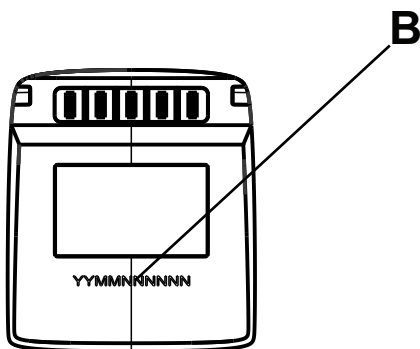
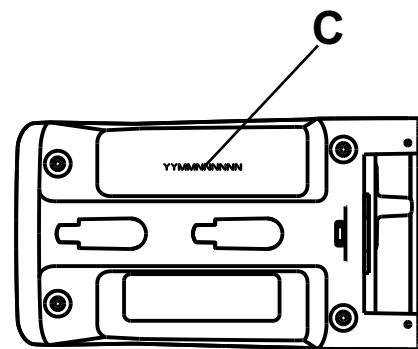

Figure 3 – Alvarium battery serial number location
Figure 4 – Alvarium charger serial number location
See below for the battery (B) and charger (C) serial number locations (Figure 3 and Figure 4).